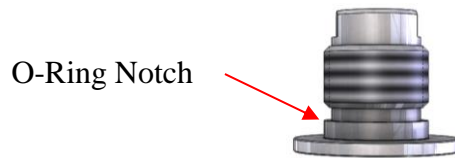

Figure 30: Center Bushing O-Ring Notch
2. Carefully place the center bushing o-ring onto the center bushing making sure not to cut the o-ring. The o-ring should reside in a notch on the center bushing. See Figure 30.